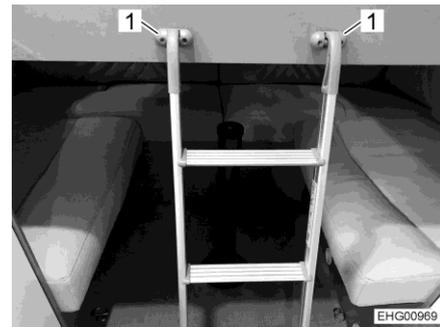

Fig. 69 Access ladder
- Attach the access ladder to the two holders (Fig. 69,1). While doing so, make sure that the access ladder is securely positioned.